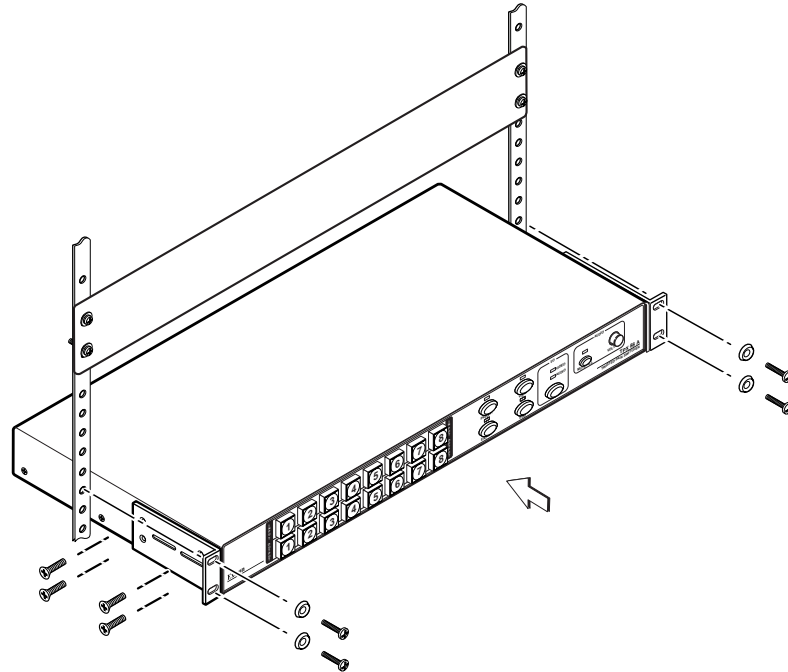

Figure 2-1 — Rack mounting a TPX switcher
2. Attach the rack mount brackets to the switcher with eight #8 machine screws, provided (figure 2-1).